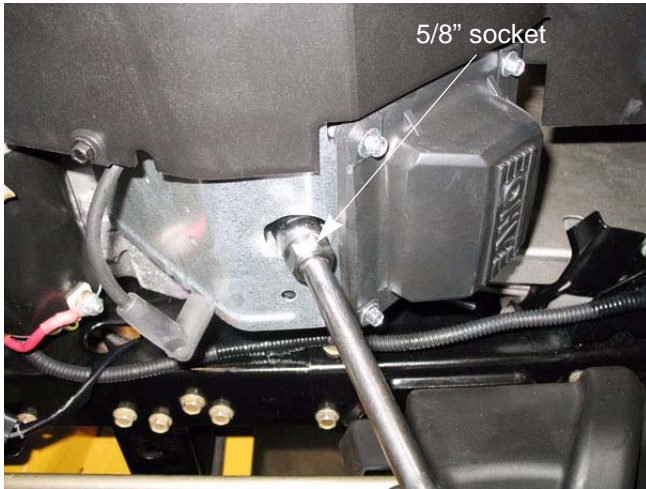

Figure 9.2
2. Remove the spark plugs with a 5/8" spark plug socket. See Figure 9.2.